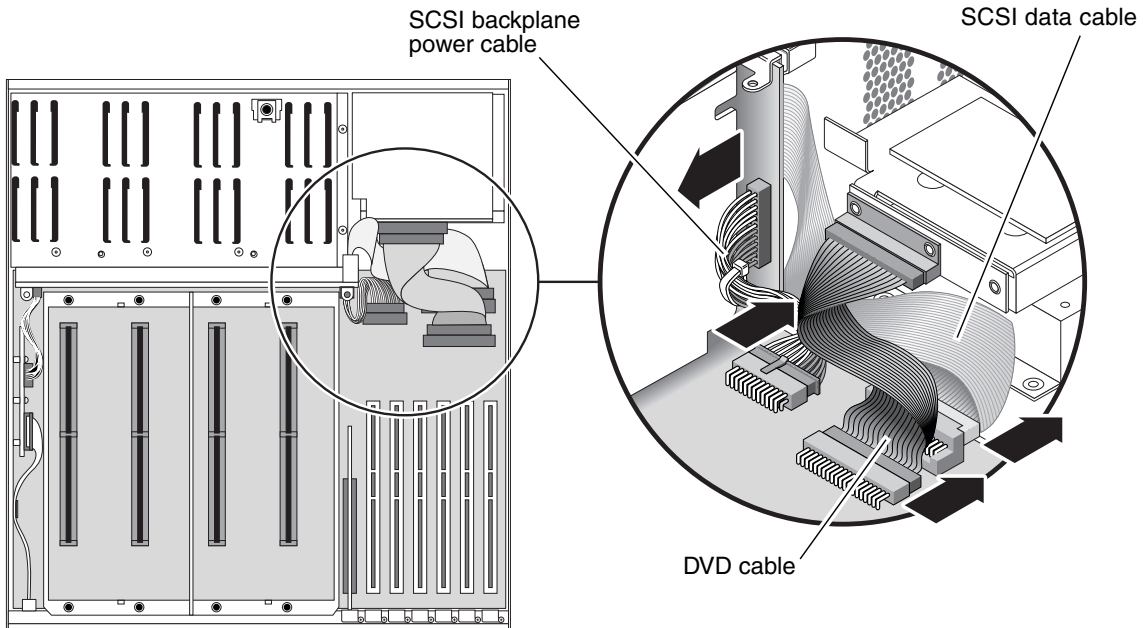

FIGURE 4-36 Disconnecting the Cables From the Motherboard
11. Disconnect the P5 SCSI backplane power cable from *both* ends (the end at P5 on the motherboard and the end on the SCSI backplane). See FIGURE 4-36.
12. Disconnect the P1 DVD cable end at P1 on the motherboard (FIGURE 4-36).
13. Disconnect the P3 SCSI data cable end at P3 on the motherboard (FIGURE 4-36).